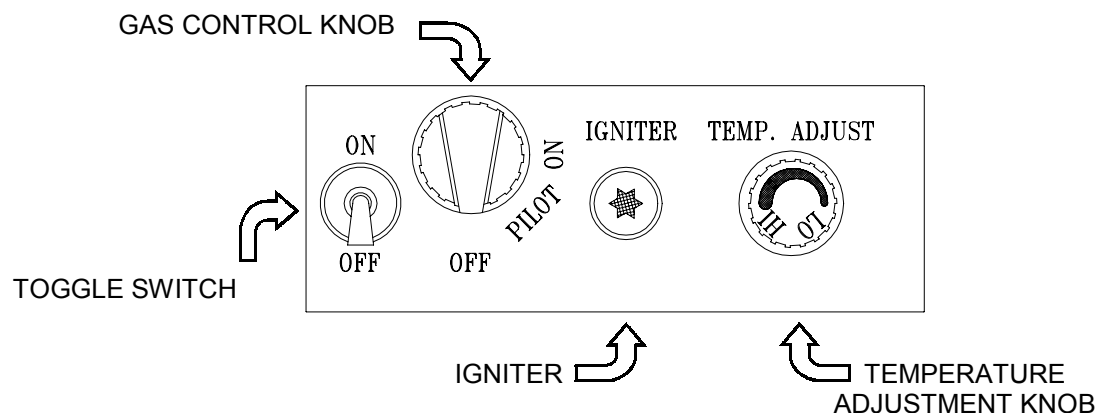

FIG. 3
3. Once the pilot is lit, rotate the gas control knob counter clockwise ⤴ to the "ON" position (Fig. 3) in order to light the burner.
5. Set the toggle switch to the "ON" position (Fig. 3).
6. Rotate the temperature adjustment knob (Fig. 3) to operate the burner within the preferred "HI" to "LO" setting.